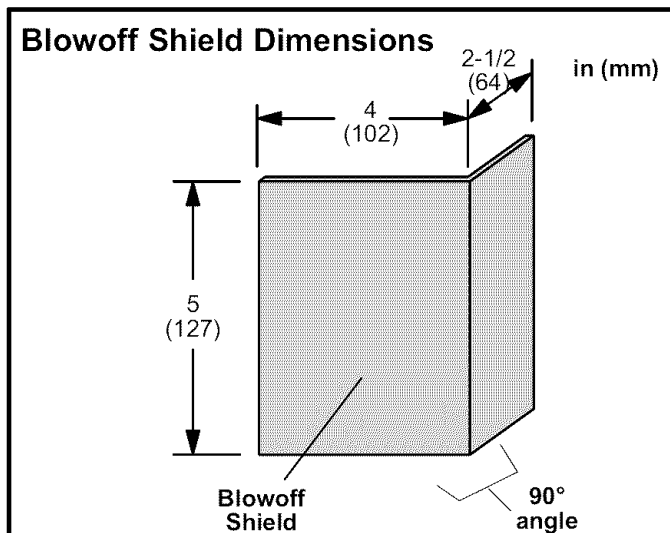

Figure 1
- 1 - Cut light gauge sheet metal into the dimensions shown in figure 1.
- 2 - The blowoff shield must have a 90° angle where it is bent. See figure 1.